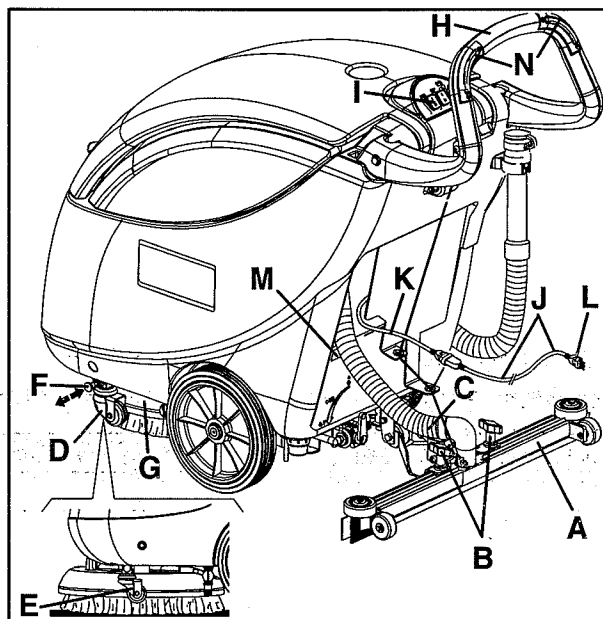

Figure 5
1. Install the squeegee (A, Fig. 5) and fix it by means of the squeegee knobs (B), then connect the vacuum hose (C) to the squeegee.
3. Deactivate the transport/parking device (D, Fig. 5) by putting it in position (E) after inserting the relevant pin (F).
4. Lift the brush cover (G, Fig. 5) by prying the handlebar (H).
6. Lower the cover (G, Fig. 5) by means of the handlebar (H).
7. Connect the extension (J, Fig. 5) with the power supply cable (K). Connect the extension plug (L) to the electrical mains.
Before connecting the machine to the electrical mains, make sure that the frequency and voltage shown in the serial number plate/technical data (M, Fig. 5) match the mains voltage.
8. Turn the brush/pad rotation switch (I, Fig. 5) to the "I" position; then hook the brush/pad-holder by pressing for a few seconds one or both switches (N, Fig. 5).